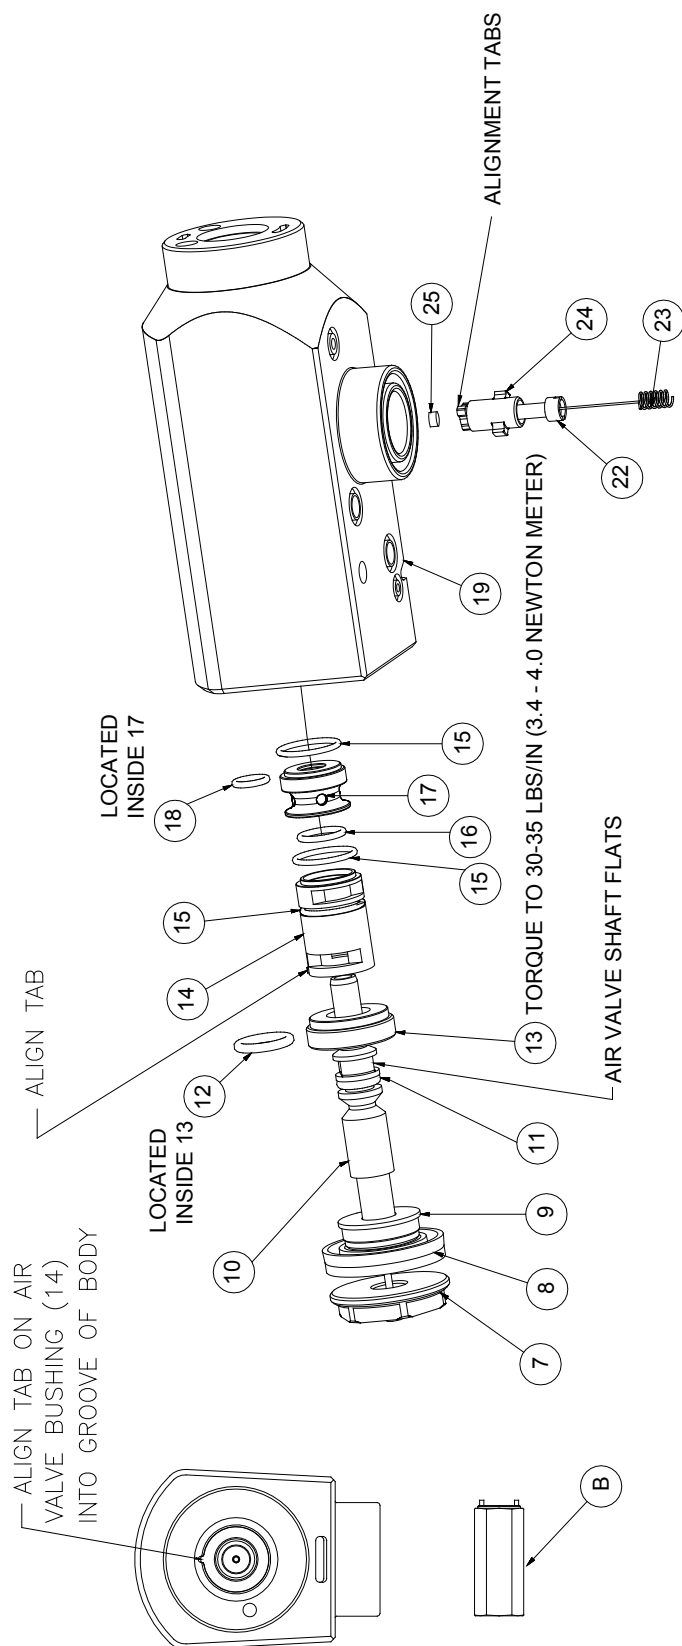

Figure 9: 79138 Evolver Gun Head Assembly
(See Figure 9)
6. O-rings [12] and [18] must be installed inside their mating parts (see Figure 9).
8. Reassemble the remaining parts, as shown in Figure 9, making sure that the alignment tab on the bushing [14] lines up with the align groove in the body [19].
79138 EVOLVER GUN HEAD ASSEMBLY - PARTS LIST (Figure 9)